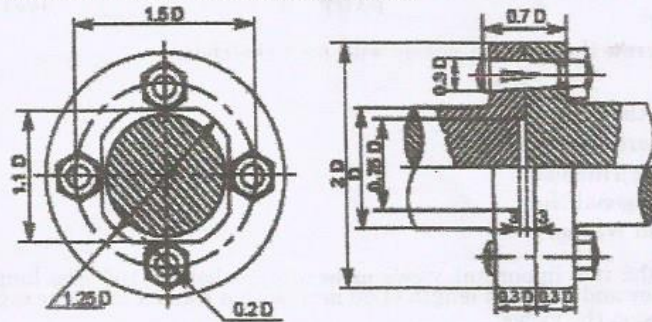

Fig. 14 (b)
b) Draw two views of the flange coupling shown in Fig. 14 (b) to join two shafts of diameter  $D = 40$  mm and dimension them. (13)